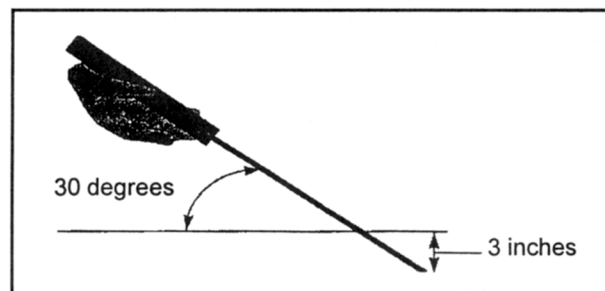

Figure 3. Probing for mines
- Push the probe into the ground gently at an angle that is less than 30 degrees (Figure 3).